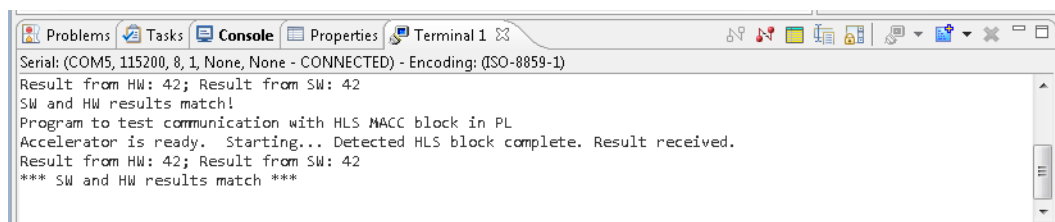

Figure 10-26: Console Output with Updated C Program
Upon success, the Terminal session looks similar to Figure 10-26.
1. From the Vivado HLS command prompt used in Lab 1, change to the lab2 directory as shown in Figure 10-26.